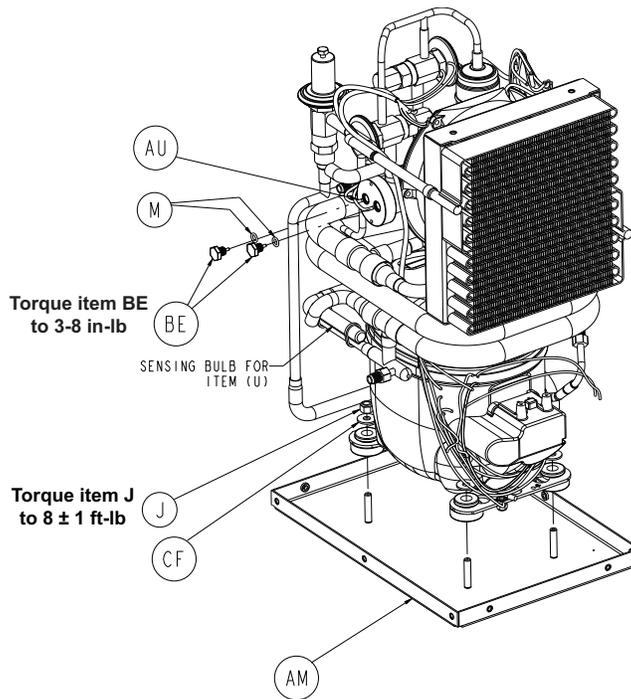

Figure 26 – Temperature probe
4. Using a utility knife, remove and discard the insulation around the heater well to gain access to either temperature probe (BE) (Figure 26).